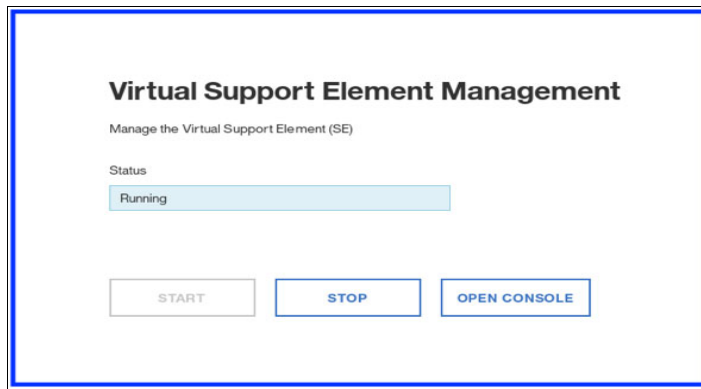

Figure 10-16 Local Virtual Support Element Management
- ▶ The device is intended to be used by the IBM System Service Representative only. If remote access to the HMC and SE is not possible, the customer can use the KMM as an emergency option. It can be local or onsite and managed by the Virtual Support Element Management task, as shown in Figure 10-16.